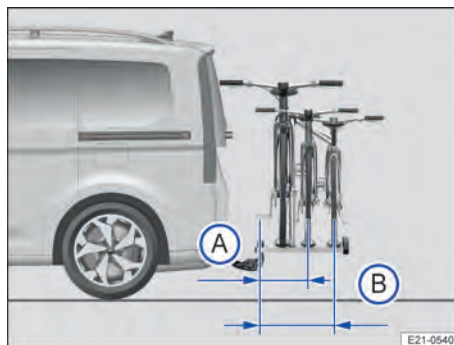

Fig. 146 Illustration of the maximum overhang on a bicycle carrier for two or three bicycles.
19.7 in) → Fig. 146 Ⓐ from the middle of the ball head to the middle of the rail of the last bicycle carrier. The overhang must not exceed 700 mm (approx. 27.6 in)
→ Fig. 146 Ⓑ for bicycle carrier systems with three bicycles.